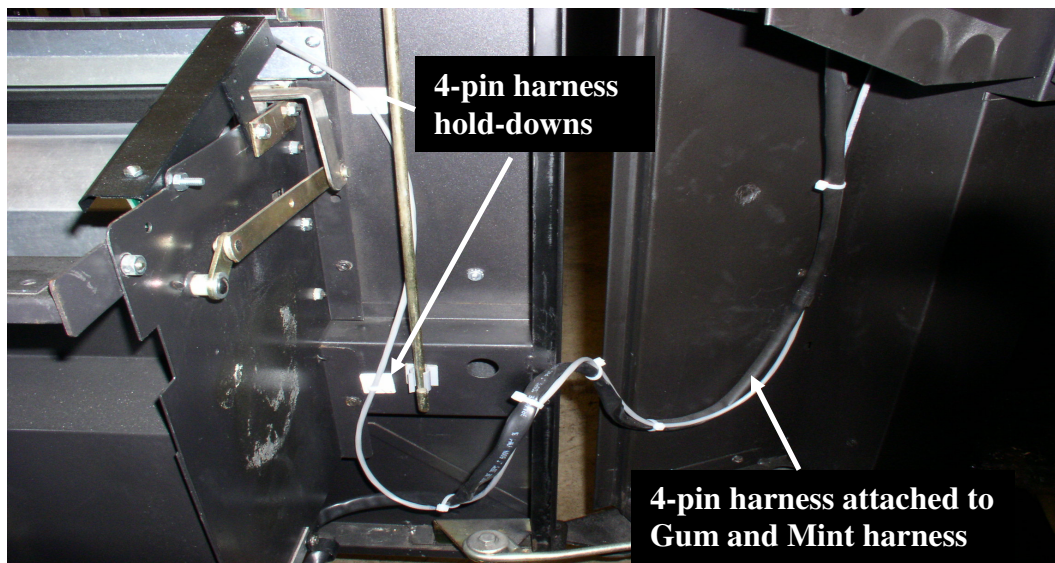

Figure 5 (Typical representation)
5) Run 4-pin harness out from bottom of plates and follow Gum and Mint tray harness. Secure 4-pin harness with cable ties (VE 4601) and cable tie hold-downs (VE 4560) too Gum and Mint harness. Bring 4-pin harness up back of door to sensor bracket, using cable ties and cable tie hold-downs to secure. (**Figure 5**)